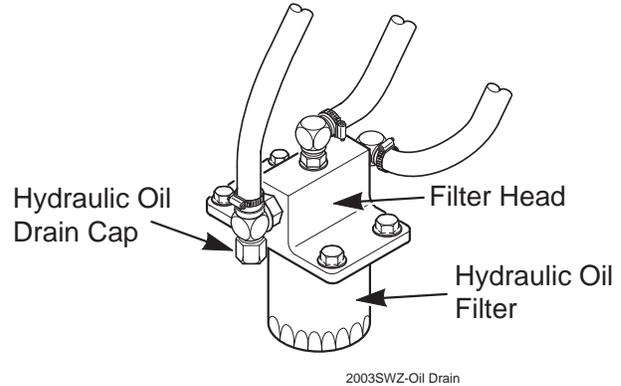

Figure 15 Hydraulic Oil Drain Cap
2. Place a suitable container under the hydraulic oil drain. Remove the fill cap from the reservoir. Remove the drain cap from the T-Fitting located on the hydraulic system filter head. (See Figure 15). Allow the fluid to drain into the container and properly discard it.
1. Remove the oil filter element (Figure 15, Page 16) and properly discard it. Fill the new filter with clean oil and install the filter. Hand tighten only.